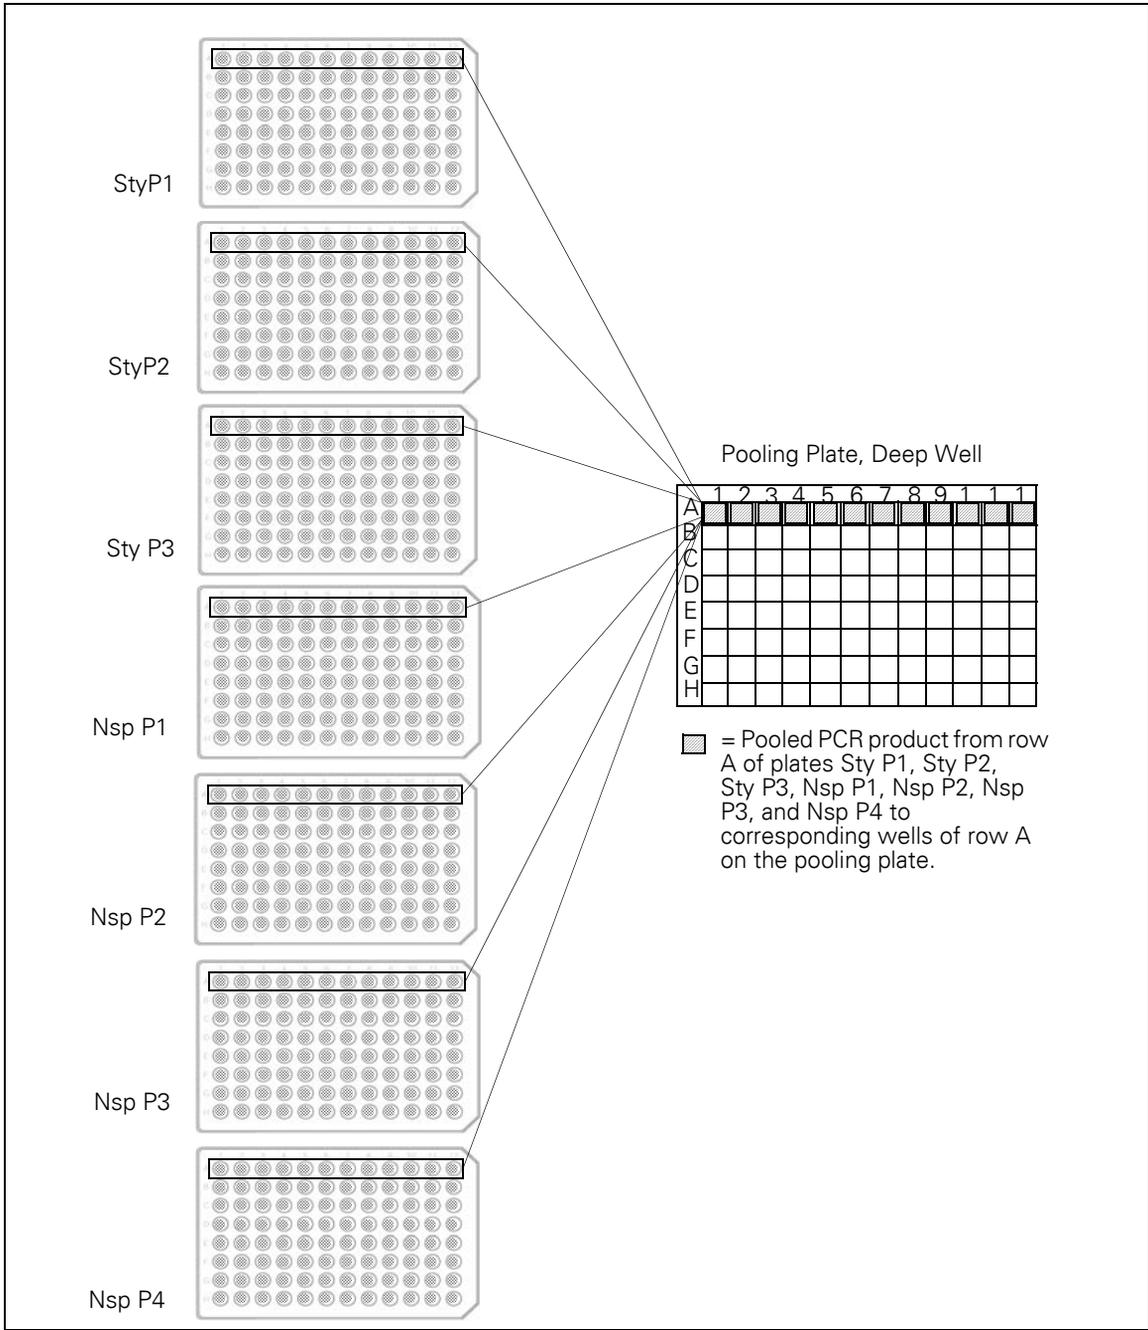

Figure A.1 Pooling Sty and Nsp PCR Products on a Deep Well Pooling Plate
- B.** Transfer the reactions from row A of each PCR plate to the corresponding wells of row A on the pooling plate (Table A.3 below and Figure A.1 on page 301).